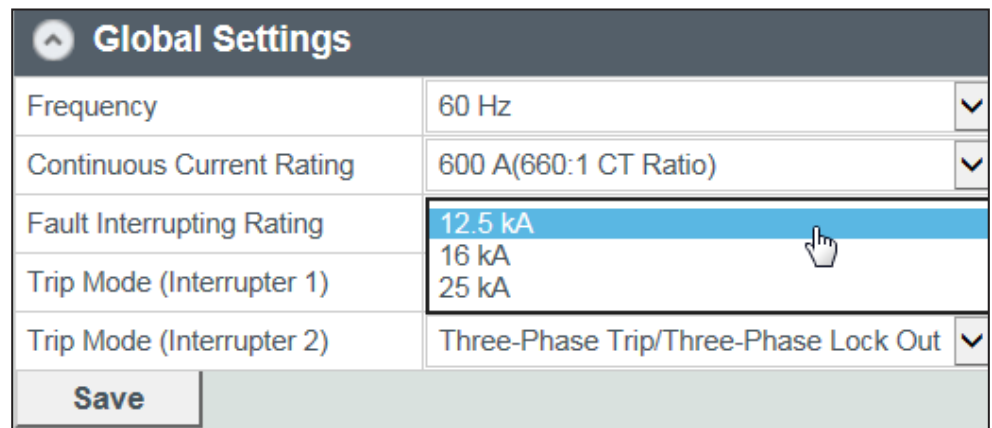

Figure 19. Select the fault-interrupting rating from the Global Settings menu.
STEP 1. From the **Global Settings** menu, select the **Fault-Interrupting Rating** setting to match the interrupting rating listed on the switchgear nameplate. See Figure 19.